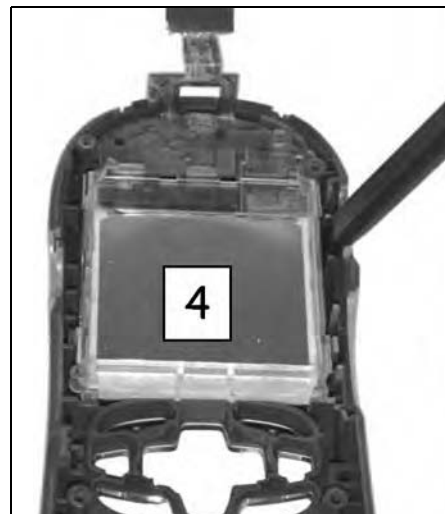

Figure 7-8.
4. Insert stick between LCD Display and housing near audio jack relief. Twist stick while gently prying up side of LCD module until it releases from two of its four clamps. See Figure 7-8.